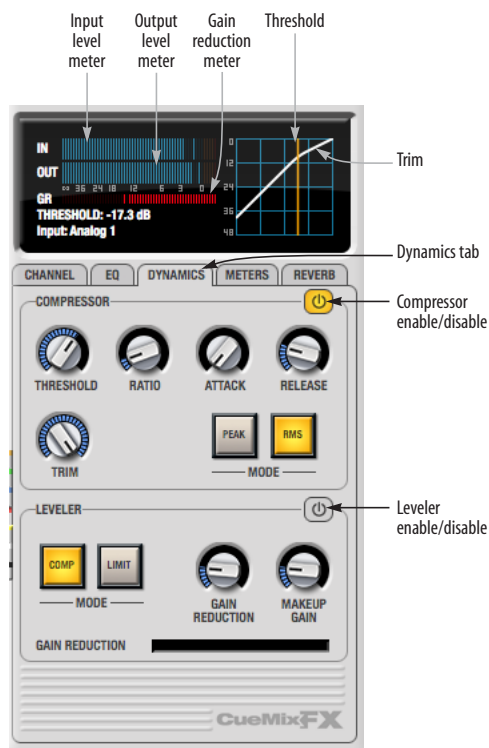

Figure 11-21: The Dynamics tab.
The Dynamics tab (Figure 11-21) displays the Dynamics processing settings for the input or output channel that currently has the focus. Click any focus button in the Inputs or Outputs tab to view the Dynamics tab settings for the channel.
Each input and output channel has a global *Dynamics enable/disable* button (Figure 11-3 and Figure 11-6). This button enables or disables all dynamics processing for the channel. In addition, the Dynamics tab has two different dynamics processors, the Compressor and Leveler, which can be individually enabled or disabled (Figure 11-21) for the channel.
The *Compressor* (Figure 11-21) lowers the level of the input when it is above the threshold. The amount of attenuation is determined by the *Ratio* and the input level. If the input is 6 dB above the *Threshold* and the Ratio is 3:1, then the output will be 2 dB above the Threshold. When the input level goes above the threshold, the attenuation is added gradually to reduce distortion. The rate at which the attenuation is added is determined by the *Attack* parameter. Likewise, when the input level falls below the Threshold, the attenuation is removed gradually. The rate at which the attenuation is removed is determined by the *Release* parameter. Long Release times may cause the audio to drop out briefly when a soft passage follows a loud passage. Short Release times may cause the attenuation to pump when the average input level quickly fluctuates above and below the Threshold.
The Threshold can be adjusted by turning the Threshold knob or by dragging the Threshold line directly in the compressor graph (Figure 11-21).
The *Input Level* meter (Figure 11-21) shows the level of the input signal before it enters the compressor. It shows either the peak level or the RMS level, depending on which mode is currently chosen.
The Gain reduction (GR) level meter (Figure 11-21) displays the current amount of attenuation applied by the compressor.
The *Output Level* meter (Figure 11-21) displays the peaks of the output signal. Trim is applied before the Output Level meter.
The Leveler™ (Figure 11-21) provides an accurate model of the legendary Teletronix™ LA-2A® optical compressor, known for its unique and highly sought-after Automatic Gain Control (AGC) characteristics. The 896mk3 Leveler faithfully models the LA-2A using the on-board DSP with 32-bit floating point precision.
The *Comp* and *Limit* buttons (Figure 11-21) model the original LA-2A Limit/Compress mode switch. The effect is very subtle, with the Limit option behaving only slightly more like a limiter than a compressor. The switch increases the level of the input to the AGC model and runs the attenuator at a slightly lower level. The Leveler then responds more strongly to transients, but otherwise still behaves like a leveling amplifier.
Gain Reduction (Figure 11-21) sets the strength of the signal sent to the AGC model.
Makeup gain (Figure 11-21) amplifies the output signal to make up for gain reduction.